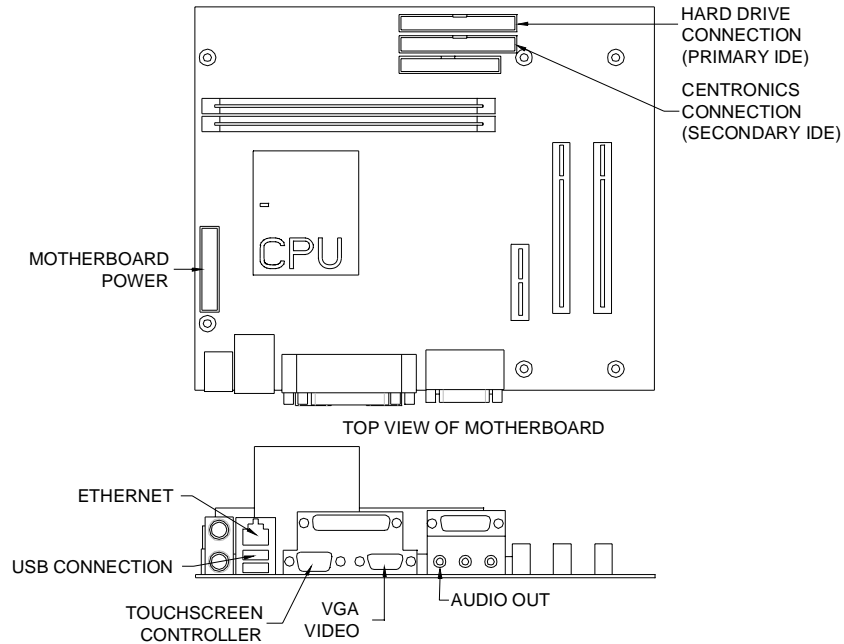
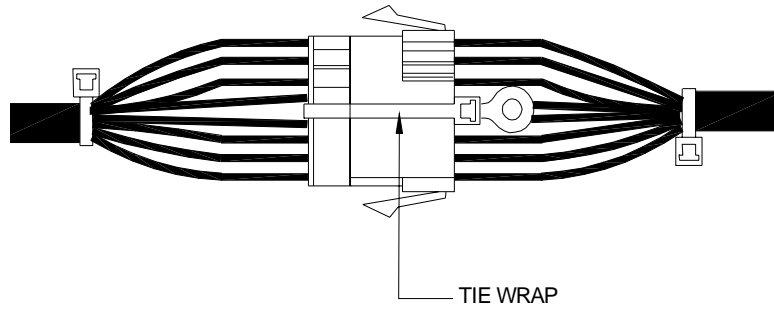

FIGURE 30 - ECS FORCE MOTHERBOARD DRAWING
FIGURE 34 - TIE WRAP CONNECTING TWO CABLES
35. Connect one end of the supplied Ethernet cable (EC0072-10) to the inside of the Ethernet coupler. Connect the other end to the Ethernet port on the motherboard (see Figure 30).
39. Reconnect the VGA connector to the motherboard. See Figure 30.
40. Reconnect the touchscreen controller connector to the motherboard. See Figure 30.
41. Connect the USB cable from the I/O board (USB-B) to the motherboard (USB-A). See Figures 30 and 31.
43. *If your original I/O board was the SA10047 or SA10023 XL series board:* Connect the SB0450-01 adapter harness to your existing I/O connector. Connect the other end of the harness to J1, J2, and J11 on the I/O board. See Figure 30. Pass a supplied tie wrap through the two mated connectors and tighten. See Figure 34.
*If your original I/O board was the SA10051 series board:* Connect the SB0451-01 I/O adapter harness to your existing I/O connector. Connect the other end of the harness to J1, J2, and J11 on the I/O board. See Figure 30. Pass a supplied tie wrap through the mated connectors and tighten. See Figure 34.